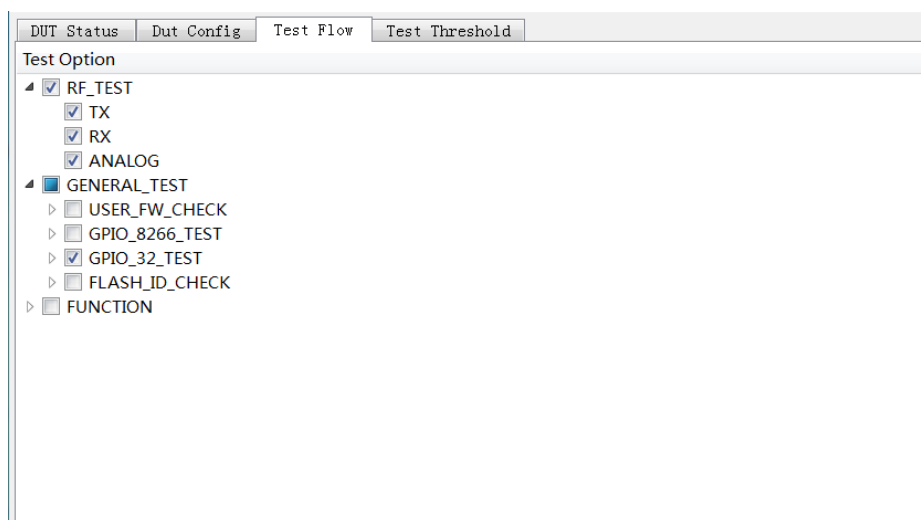

Figure 3-4. ESP32 GPIO Conductivity Test
- **Configuration Interface:** As shown in Figure 3-4, you can enable this test in the **GENERAL_TEST** sub-list on the **Test Flow** tab. For details, please refer to Appendix B.